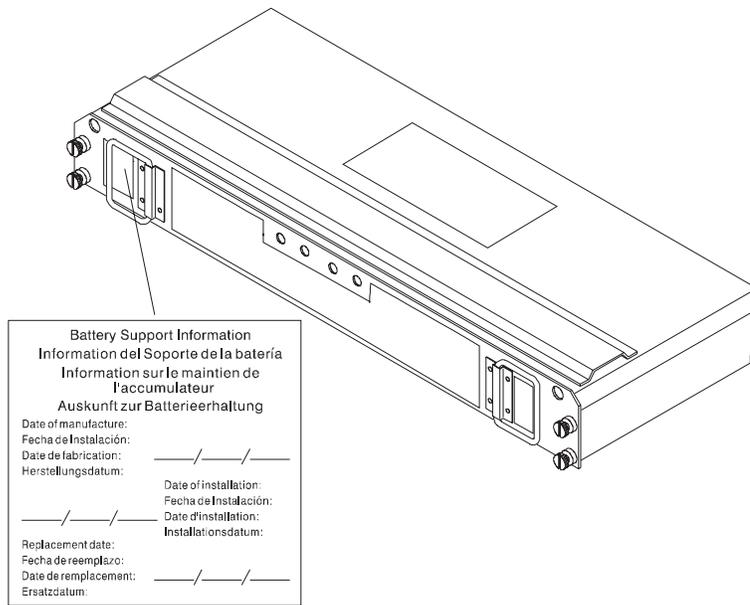

Figure 37. Recording the battery support information
- The service label on the battery provides a blank line for recording the date on which the battery was last serviced (see Figure 37 on page 48). Check this label to determine when to replace the battery. For information about using the software to track battery age, refer to the IBM DS4000 Storage Manager documentation and online help.
6. Find the “Battery Support Information” label on the front of the new battery CRU, as shown in Figure 37 on page 48.